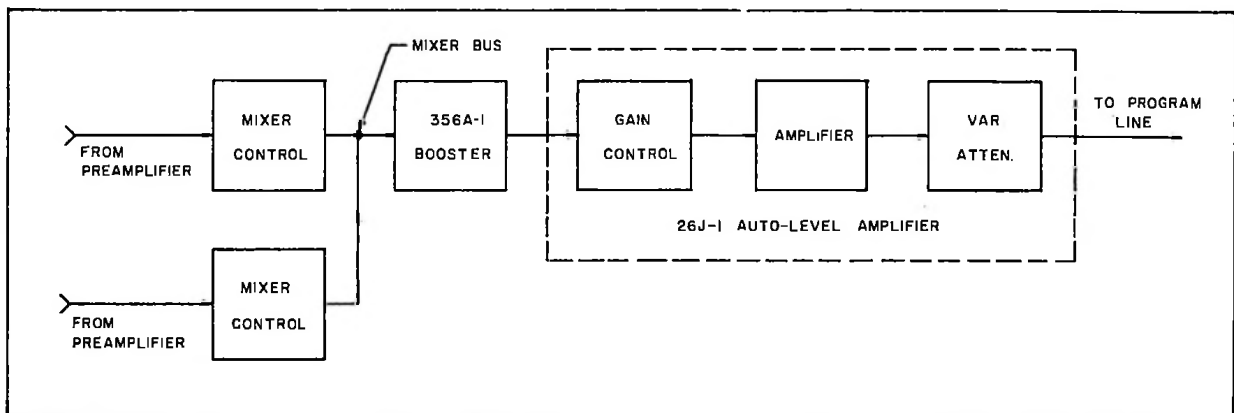

Figure 4. Collins Type 26J-1 Auto-Level Amplifier as Automatic Mixer, Suggested Arrangement
6.4 THE 26J-1 AUTO-LEVEL AMPLIFIER USED AS AUTOMATIC MIXER. Figure 4 shows a suggested arrangement for using the 26J-1 Auto-Level Amplifier as an automatic mixer. When two signals are present at the mixer bus, the amplifier acts as a master gain control, expander-compressor, or as a straight program amplifier.